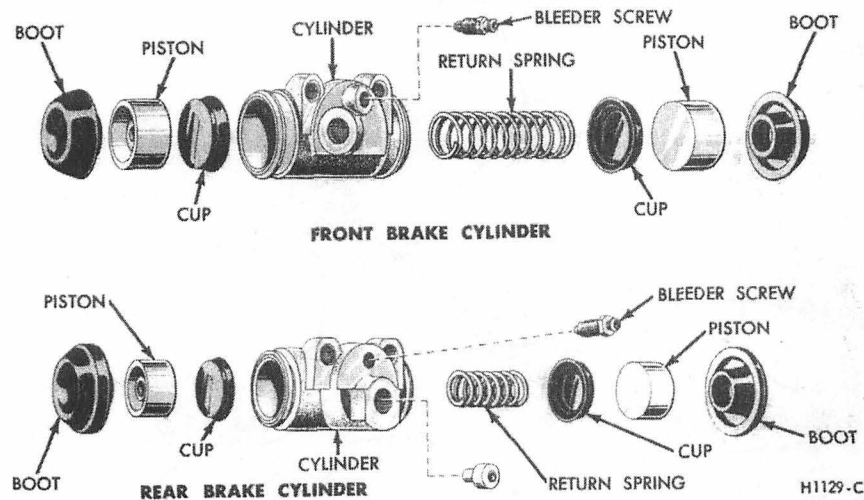

FIG. 7—Front and Rear Wheel Cylinders—Typical
1. Remove the rubber boots (Fig. 7). Remove the pistons, cups, and return spring from the cylinder bore.
3. Insert the return spring, cups, and pistons (Fig. 7) in their respective positions in the cylinder bore. Place a boot over each end of the cylinder.